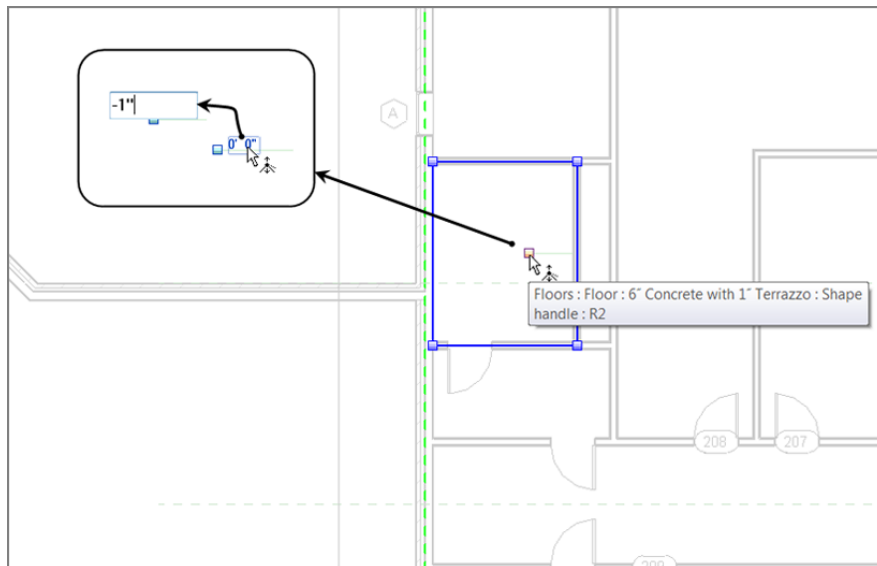

FIGURE 6.50: Dropping the elevation of the drain down 1" (25mm) from the surface of the floor
7. Press Esc once. This puts you in Modify Sub Elements Mode. You'll know you're in this mode by the icon next to your pointer, as shown in Figure 6.50.